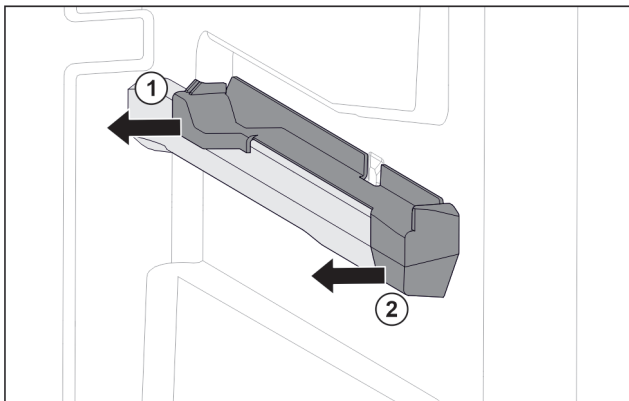

Fig. 102 Attachment on the right moulded rib
- ▶ Pull off attachment at the back sideways. Fig. 102 (1)
- ▶ Pull off attachment at the front sideways. Fig. 102 (2)